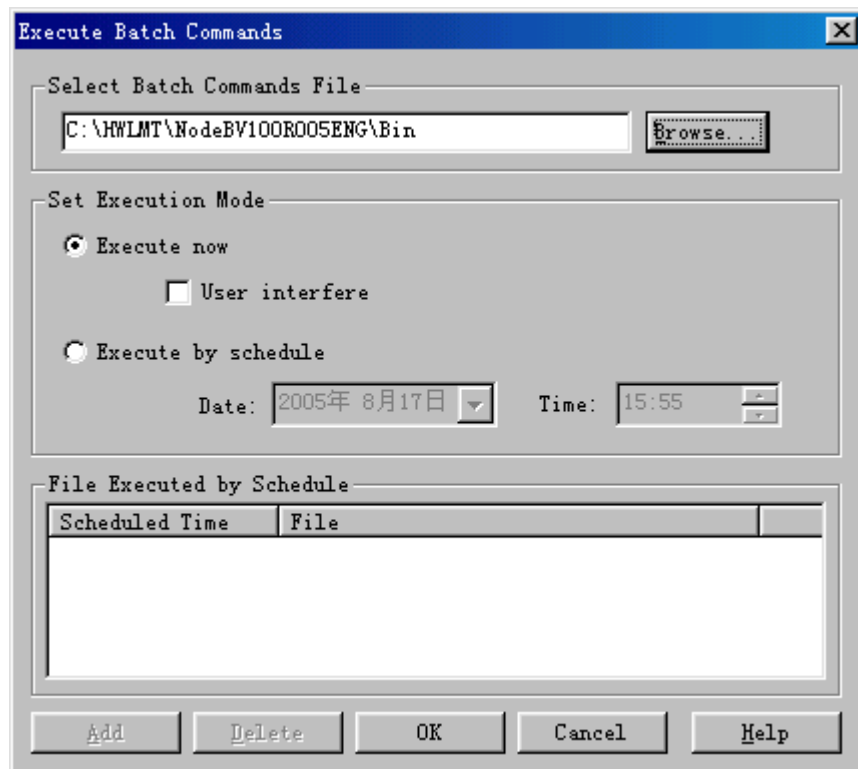

Figure 4-7 Execute Batch Commands dialog box
- 1) Choose **System -> Execute Batch Commands**, or press **Ctrl+R**. The **Execute Batch Commands** dialog box opens up, as shown in Figure 4-7.
The **Execute Batch Commands** dialog box opens up, as shown in Figure 4-7.